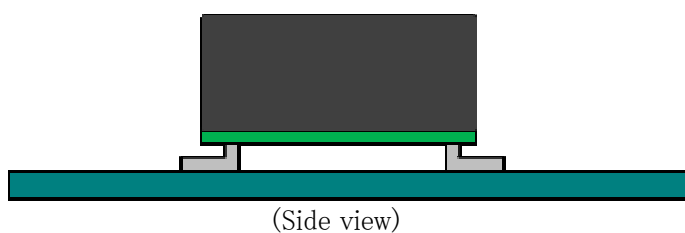

Fig.1.1 Mounting method
- (1) Input :DC 4.5 ~ 9 [V]
- (2) Output :Rated output
- (3) Cooling method :Convection cooling
- (4) Mounting method :Shown as Fig.1.1